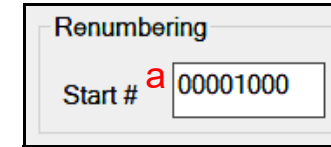

Figure 9 DSA Main Screen Renumbering Group
The Renumbering Group (Figure 9) provides information and allows the user to select and set the Cashbox Renumber function.
- **Start #:** The Start # data entry field (Figure 9 a) accepts a user-specified number up to nine (9) digits in length. This parameter sets the base number used to initialize blank Cash Boxes connected to the MDM Application. When a Cashbox is docked onto a Docking Station (and "Renumber Mode" is enabled), it will be initialized and given the current default Cash Box Number displayed in the Start # data field. The new default number will then be incremented by 1.